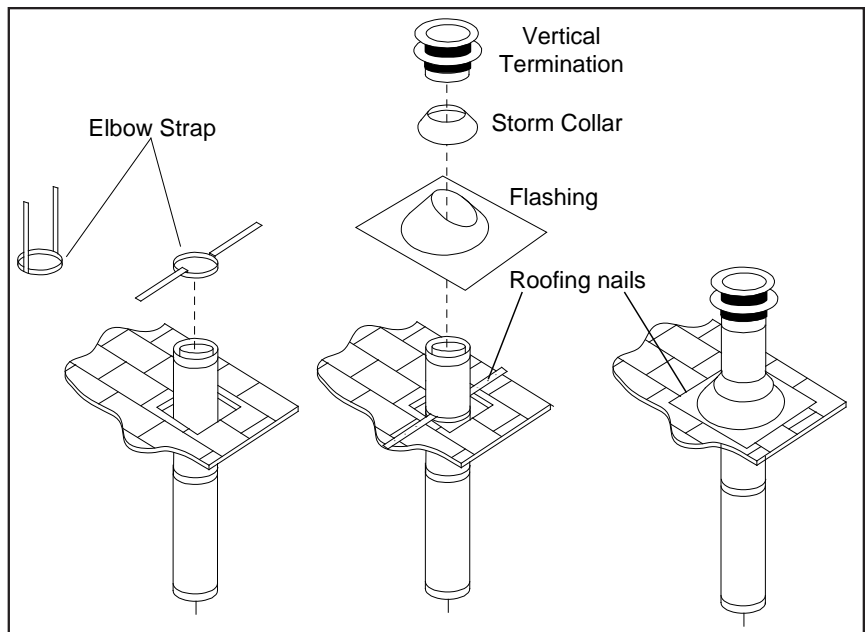
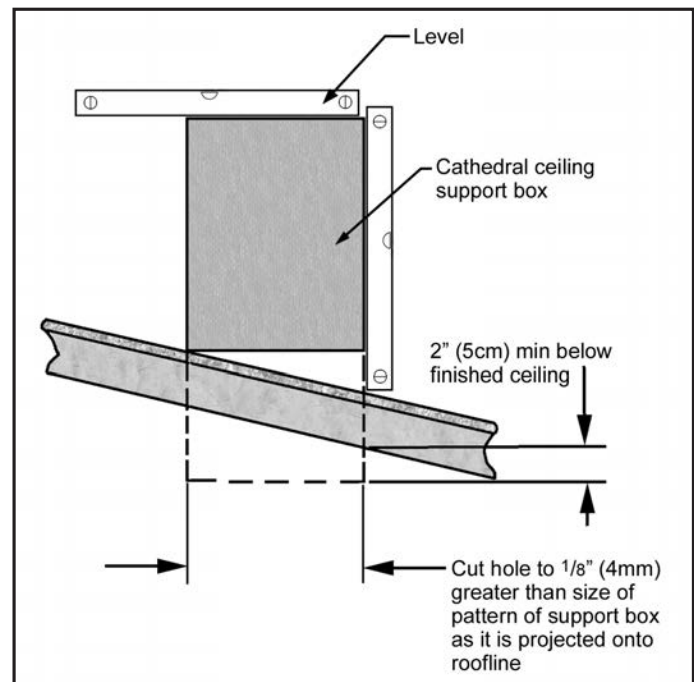

Figure 29: Vertical Vent Termination Installation.
Figure 33: Cathedral Ceiling Support Box Leveling.
3. To install the Round Support Box/Wall Thimble in a flat ceiling, cut a 10" square hole in the ceiling, centered in the hole drilled in Step 2. Frame the hole as shown in Figure 29.
- (c) For multi story installations. A ceiling firestop is required at the second floor, and any subsequent floors (see Figure 33). The opening should be framed to 10" (25.4 cm) x 10" (25.4 cm) inside dimensions, in the same manner as shown in Figure 29.